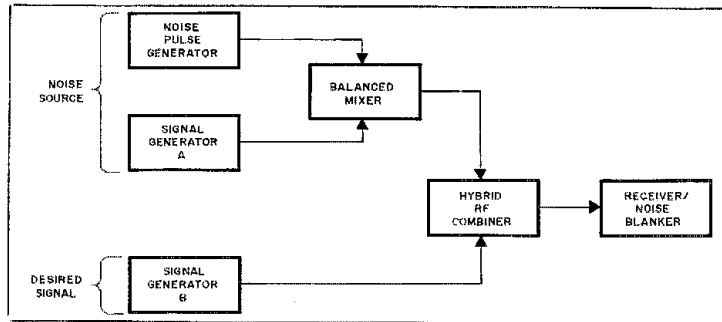

Fig. 2 — A test setup for quantitative noise-blanker measurements.
Fig. 2 illustrates a proper setup for noise blanker tests. Signal generator A and a pulse generator are connected together with a balanced mixer, such as the Mini-Circuits ZAD series. The balanced mixer has a direct-coupled port; this allows the mixer to serve as an rf switch that is controlled by the pulse generator. This arrangement produces a pulsed rf output. Adjust the pulse generator to a pulse rate and duration typical of received impulse noise. This output is fed into an rf combiner, along with a second signal generator (B) which is used to provide the desired signal.² Signal generator A is typically set 1 kHz from the desired signal frequency. The rf-combiner output is then fed into the receiver/noise blanker under test. Using this method, various signal-level comparisons can be made. Since both the noise source and the desired signal are true rf signals within the receiver passband, a 50- μ V noise vs.